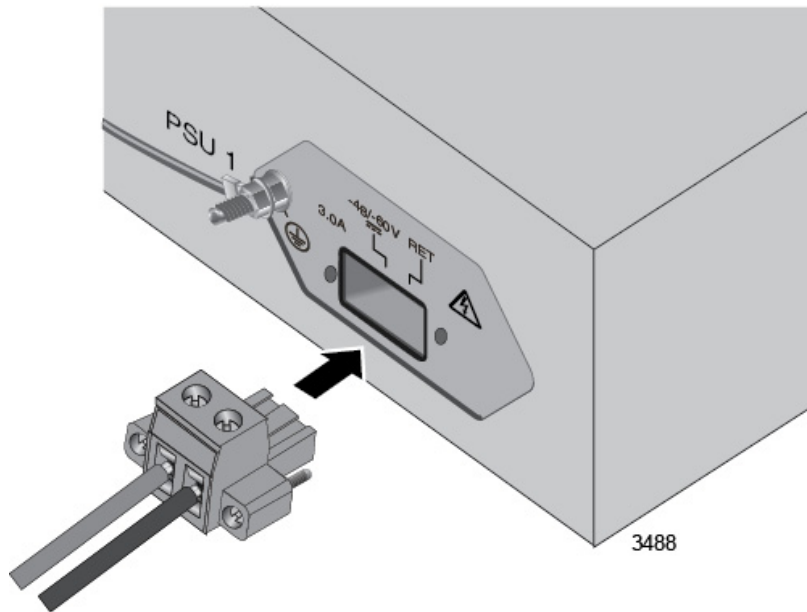

Figure 44. Sliding the DC Connector into the Switch
9. Slide the DC connector into the slot on the switch. Refer to Figure 44.